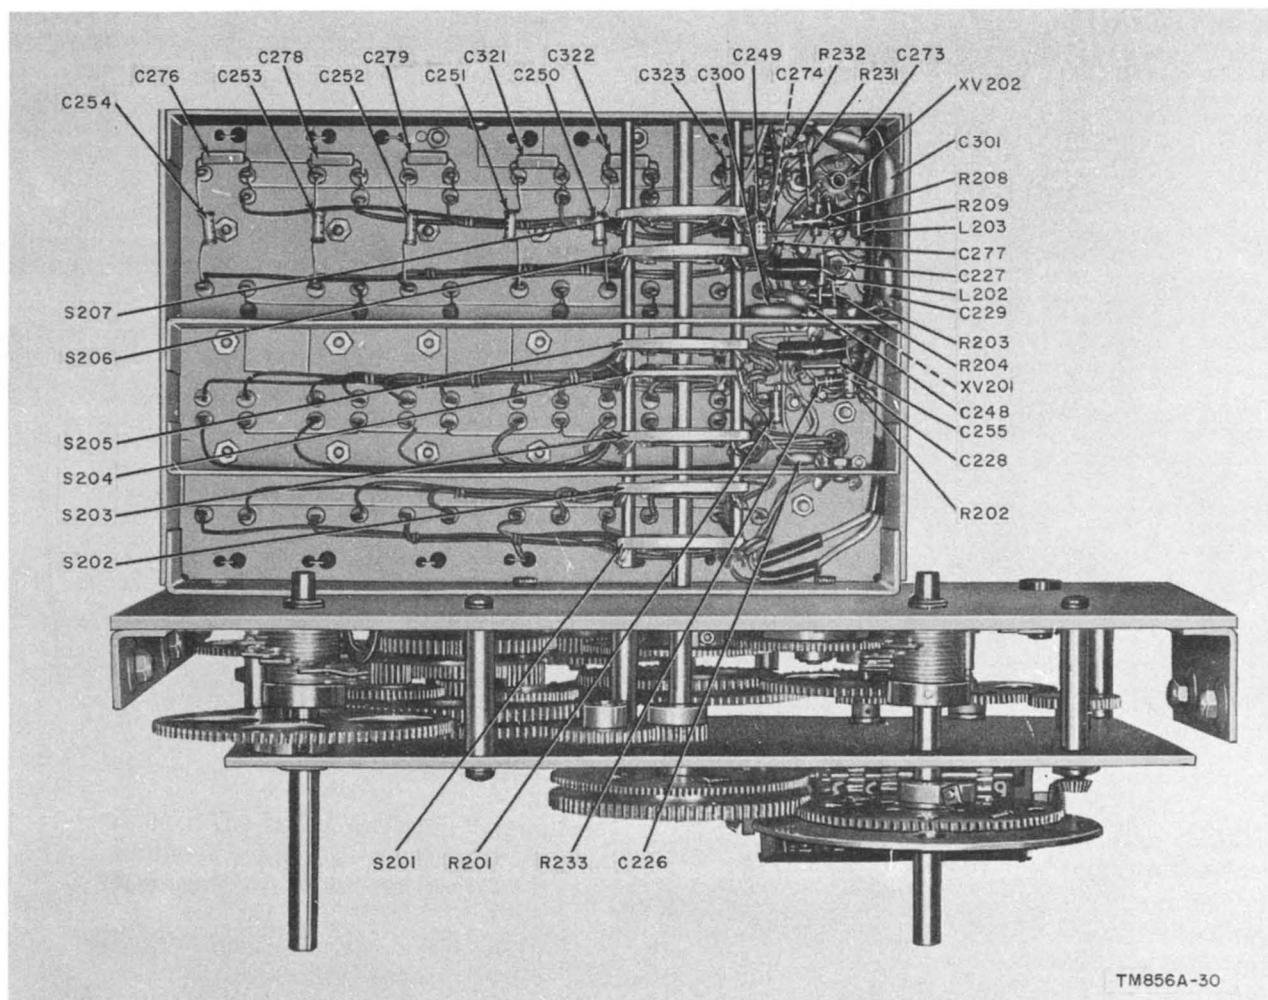
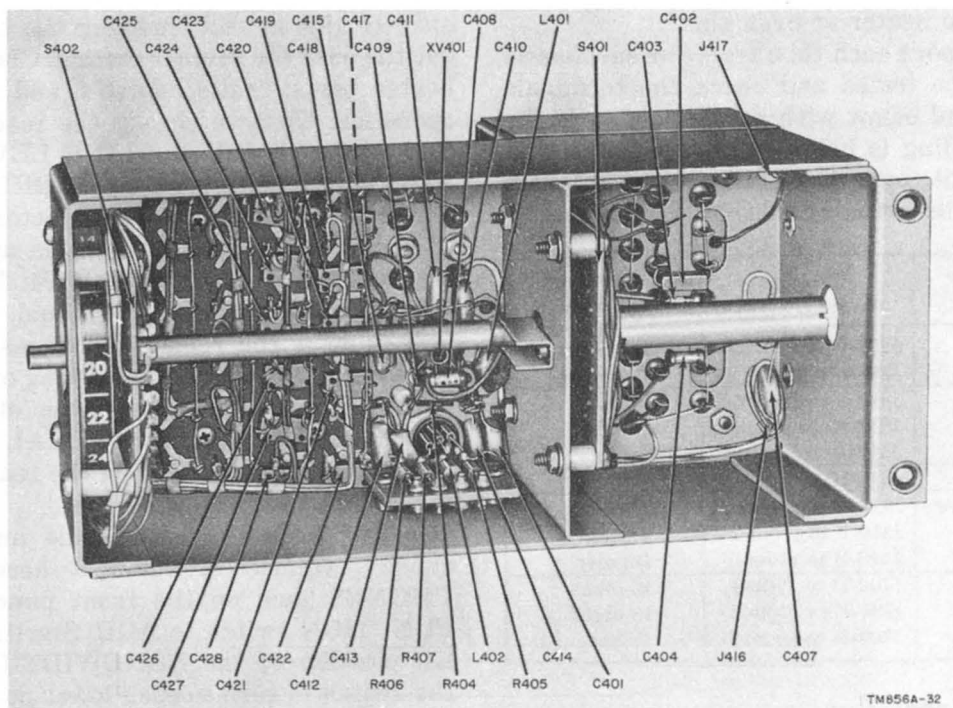

Figure 59. Rf subchassis, bottom view, front section.
Figure 62. Crystal-oscillator subchassis, bottom view.
c. The calibration-oscillator signal can be used as a convenient means of quickly localizing trouble in the receiver. Typical methods are described in (1) and (2) below.
- (1) To check the contacts of the rf band switches (S201 through S208, fig. 59) and crystal-oscillator band switches (S401 and S402, fig. 62), connect a 600-ohm headset to the PHONES jack on front panel. Set the FUNCTION switch to CAL. Set the KILOCYCLE CHANGE control to any 100-kc position, and turn the BFO switch to ON. Starting with the lowest detent position of the MEGACYCLE CHANGE control, turn the control to each detent position in succession. Adjust the BFO PITCH control as necessary to obtain